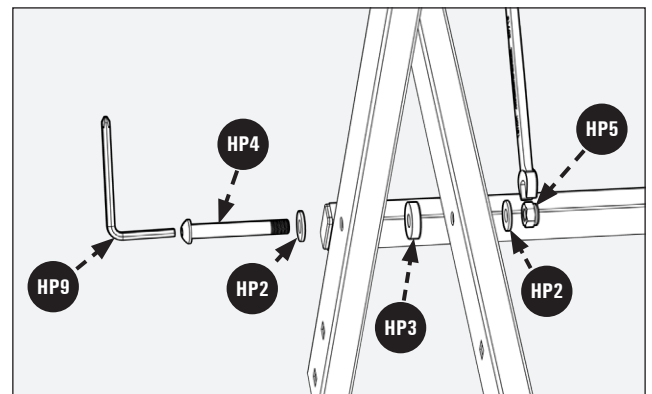

FIGURE 2
2. Secure Stand Assembly with M8 x 65mm Hex Socket Head Screw (HP4), M8 Plastic Spacer (HP3), 2 Flat Washer 8mm x 14mm x 1.5T (HP2), and M8 Lock Nut (HP5). See Figure 2.